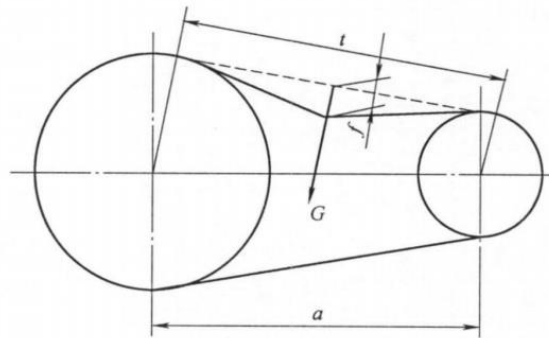

Figure 12-9 Installation deflection of synchronous belt
- Step7. Adjust the synchronous belt to the proper tension (as shown in Figure 12-9); The synchronous belt frequency is 96Hz -100Hz, which can also be measured by pressure method, with pressure $G=1.7\text{ N}$ and deformation $f=3.2\text{ mm}$.
- Step7. Adjust the timing belt to the proper tension (as shown in Figure 12-9); The synchronous belt frequency is 101Hz -106Hz, which can also be measured by pressure method, with pressure $G=0.9\text{ N}$ and deformation $f=2.2\text{ mm}$.